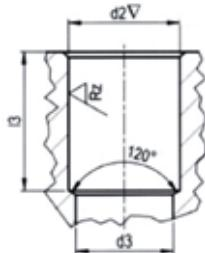

Fig. 1
- The drilled hole [Fig. 1] must be within the tolerances shown on the preceding dimensional sheets.